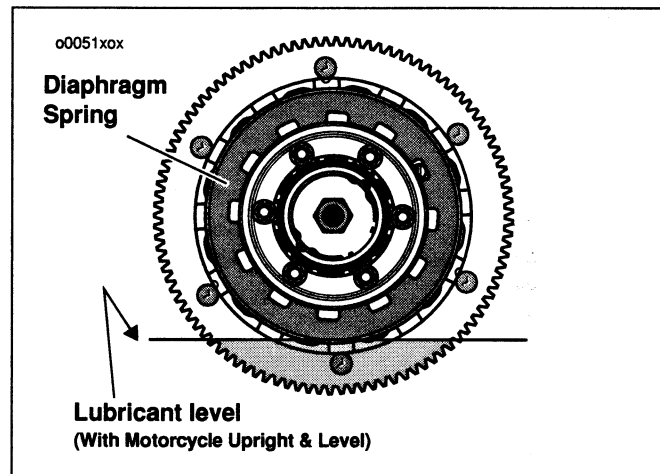

Figure 45. Lubricant Level
4. See Figure 45. Primary chain case lubricant should be at the bottom of the clutch diaphragm spring.